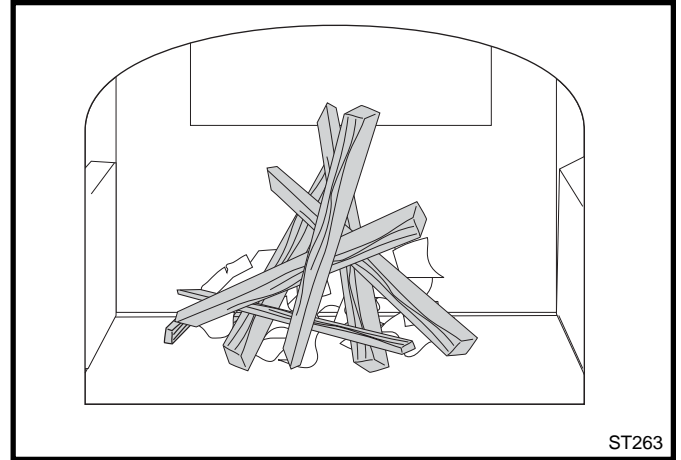

Fig. 27 Start a fire with small, dry kindling.
Step 2. Place several sheets of crumpled newspaper in the stove. Avoid using glossy or colored paper, as these burn poorly. At the front of the firebox, place on the paper six or eight pieces of dry kindling split to a finger-width size, and on the kindling lay two or three larger sticks of split dry wood approximately 1-2" (25-50mm) in diameter. (Fig. 27)